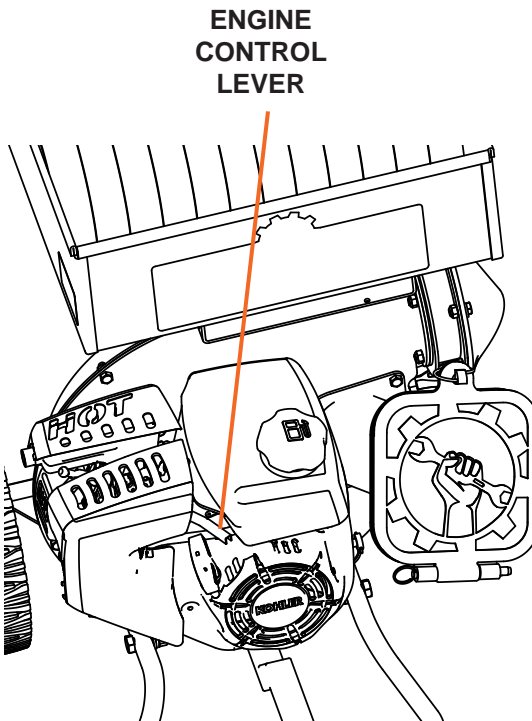

Figure 8
1. Move the engine control lever to the left (choke) position (see Figure 8).